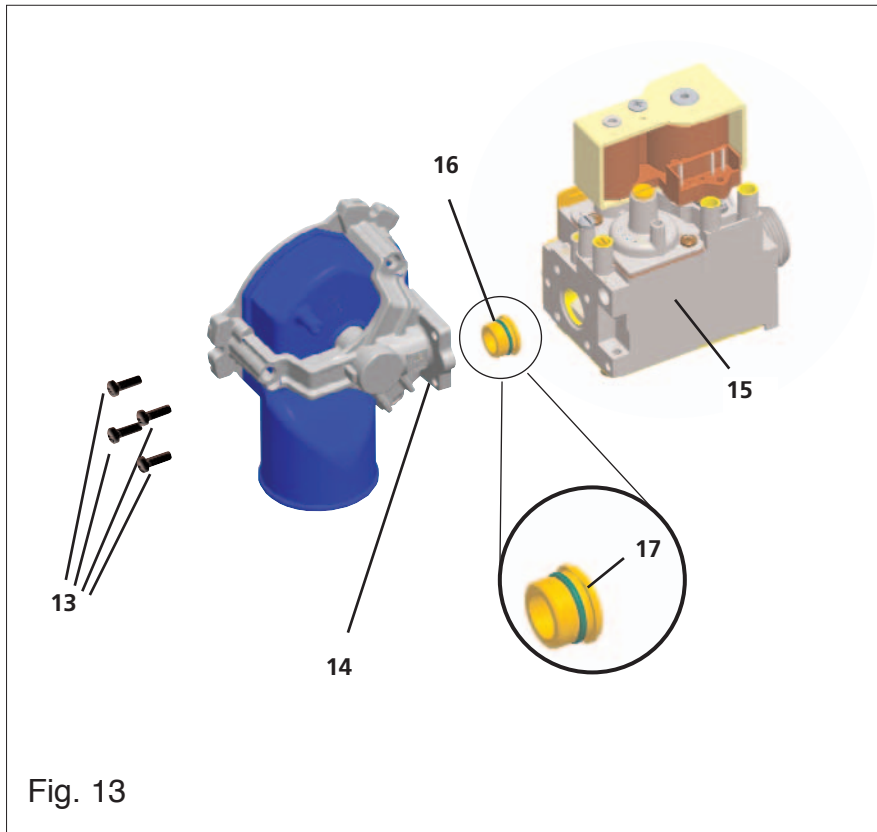

Fig. 13
With reference to Fig. 13, remove the four screws (13) using a 5 mm screwdriver for slot-head screws or a Torx T20 screwdriver. Separate the flange (14) from the valve body (15). Using a 3 mm screwdriver for slot-head screws, remove the injector (16) making lever on the plane surface (17) of the injector. Replace the injector. Assemble the flange with the valve body, fix the four screws (13). Recommended torque: 3Nm. Perform a gas leak test.